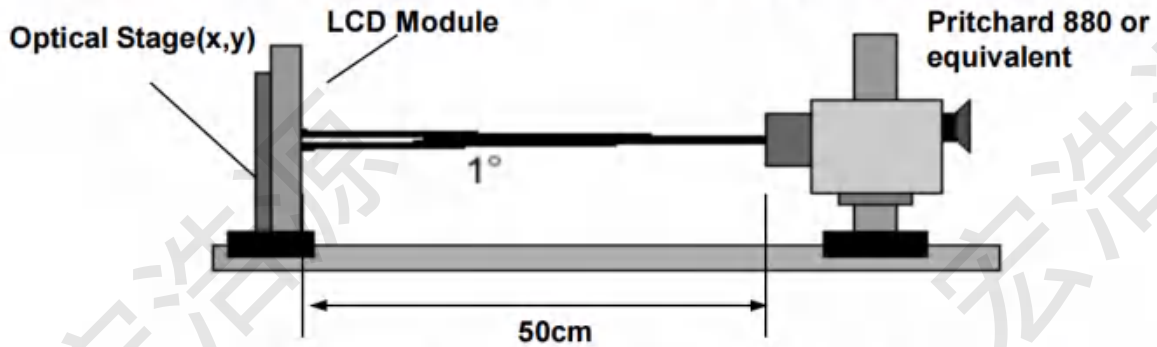

FIG. 6 Optical Characteristic Measurement Equipment and Method
- ※. Surface luminance is determined after the unit has been 'ON' and 1Hour after lighting the backlight in a dark environment at $25\pm 2^\circ\text{C}$. Surface luminance is the luminance value at center 1-point across the LCD surface 50cm from the surface with all pixels displaying white. For more information see the FIG. 6.